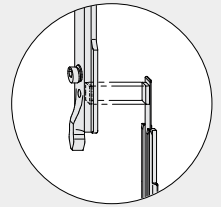

Figure 1
- > A** Insert slider (page 2: 35) with operating rod S4 and corner drive VSU/BSO (36) vertically on the BSO.
- B** Insert slider DK (21), stay LM 4200 (20) and operating rod S3 horizontally on the VSO.
- > C** Insert locking bolt DK (21), stay LM 4200 (20), operating rod S3 and striker plate (40) horizontally on the VSO.
- > D** Couple locking bolt DK (21) with corner drive VSU/BSO (36). Make sure positioning of the coupling piece for corner drive VSU/BSO (36) is correct.
- E** Attach stay hinge (10/16) and stay LM 4200 (20) using countersunk screw M5 x 7 (11/17) (torque  $2.5 \pm 0.25$  Nm).
- F** Position stay hinge (10/16) according to specifications on page 4 and fasten stay LM 4200 (20) with punching screws.
- > G** Insert slider (35) with operating rod S5 and corner drive VSU/BSO (36) vertically on the VSU.
- H** Insert tilt lock 10 mm (25), operating rod S1, coupling bracket LM (29/33), operating rod S2 and corner drive VSO (23.1/23.2) vertically on the VSO.
- > I** Couple tilt lock 10 mm (25) with corner drive VSU/BSO (36). Make sure positioning of coupling piece for corner drive VSU/BSO (36) is correct (Figure 1).
- J** Couple corner drive VSO (23.1/23.2) with operating rod S3 "striking plate (40)" and secure with clamping piece EUL (22).
- K** Insert run-up block (27) horizontally on the VSU.
- L** Attach handle LM (1) with cheese head screws M5 x 12 (30) (torque  $2.5 \pm 0.25$  Nm).